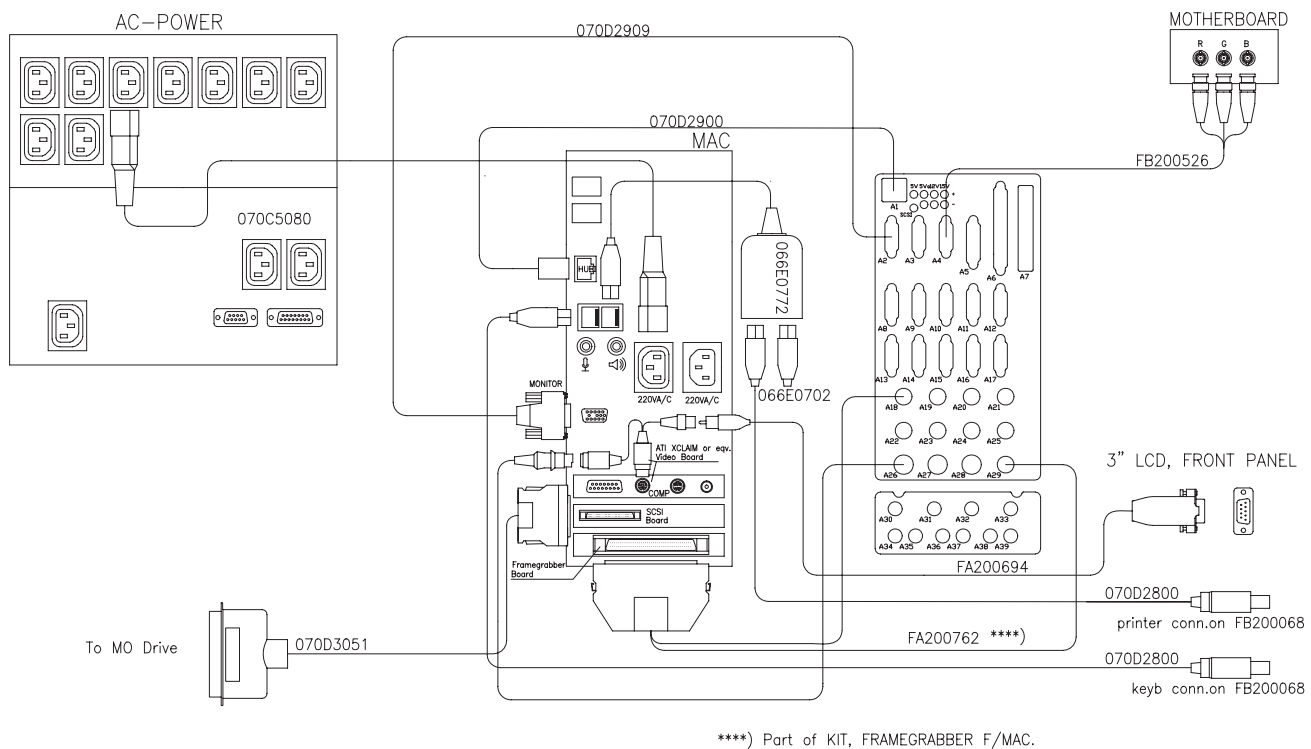

Figure 9-8 Intenal MAC Cable Harness with 3" LCD. Macintosh Computer G4 V2.
- Power Mac G4 V2 (See Figure 9-8 on page 9-26.)